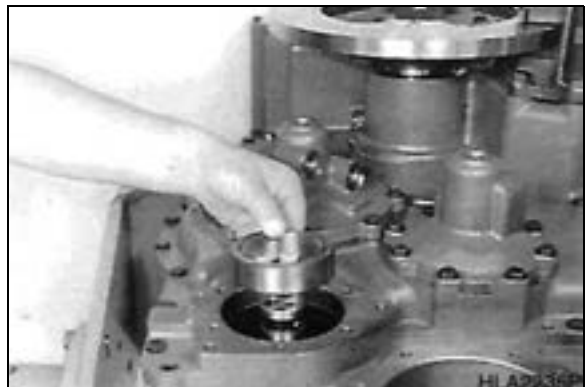

Figure 285
39. Adjust bearing preload clutch KV/K1 = 0.15 - 0.20 mm (0.0059 - 0.0079 in) (Figure 285, EXAMPLE G).